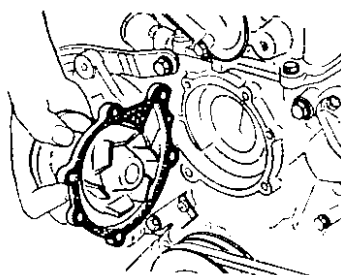

Fig. B.4 Removing the thermostat.
The thermostat is located in the water outlet passage (See Fig.B.4.). To remove the unit, drain the cooling system, remove the radiator hose and the water outlet elbow. Take out the thermostat.
3. Remove the radiator securing bolts and lift out the radiator (Fig.B.4.).